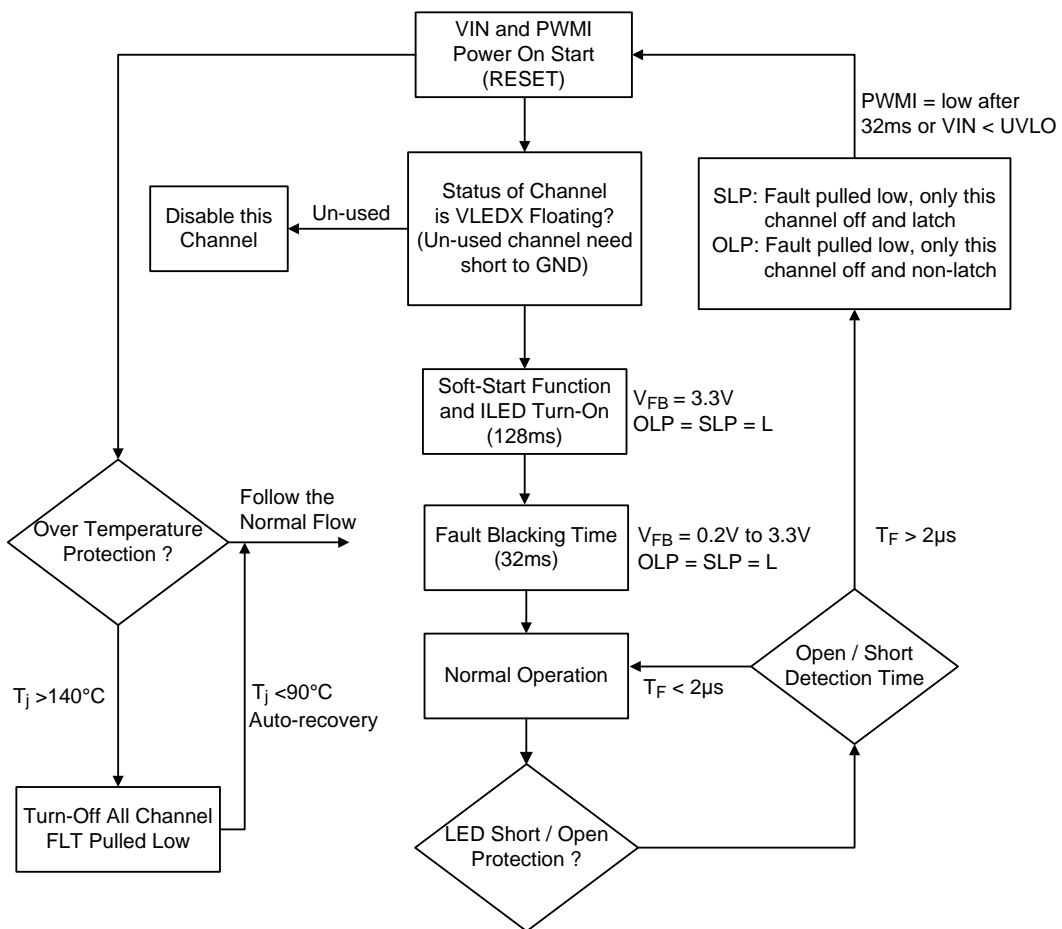

Figure 12. The RT8300 protection mechanism flow
3. **OVP (Over Voltage Protection):** When the overvoltage occurs at the output voltage, OVP will detect it by the voltage divider. It will clamp the output voltage at the voltage set by OVP, without turning off the circuitry. Figure 12 shows the RT8300 protection mechanism flow.